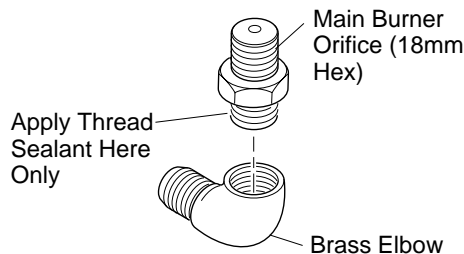

Figure 4 - Removing/Replacing Main Burner Orifice
4. Remove existing main burner orifice from brass elbow and replace with main burner orifice supplied with conversion kit. **Note:** The new main burner orifice will have the number 132 stamped on it for identification purposes. Apply a small amount of thread sealant to the orifice before tightening (see Figure 4). Sealant must be resistant to Propane/LP gas.